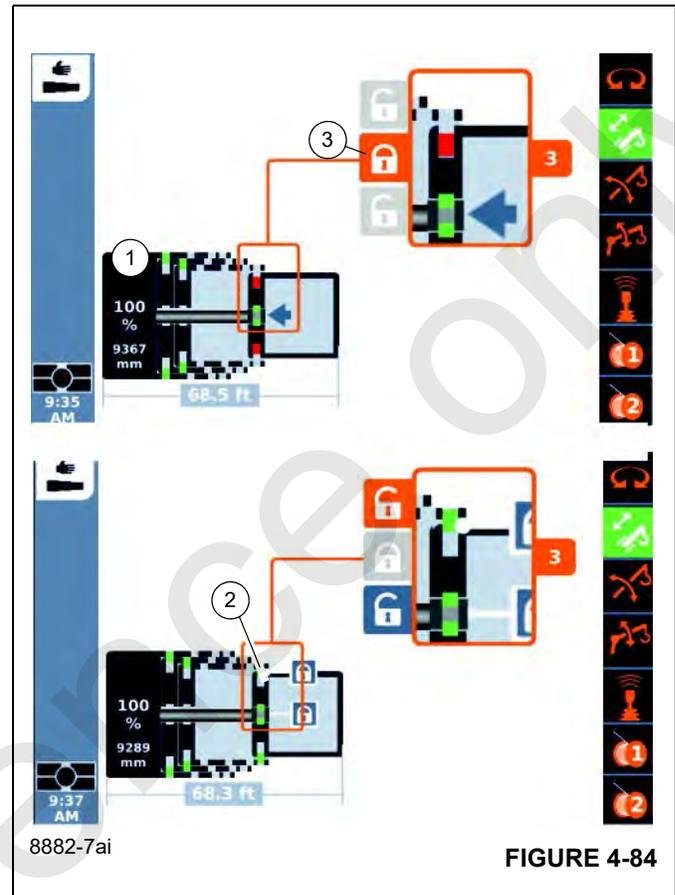

FIGURE 4-84
- Refer to (Figure 4-84).
- Telescope to the desired fixed length, e. g. telescopic section (3) 1 to 100%.